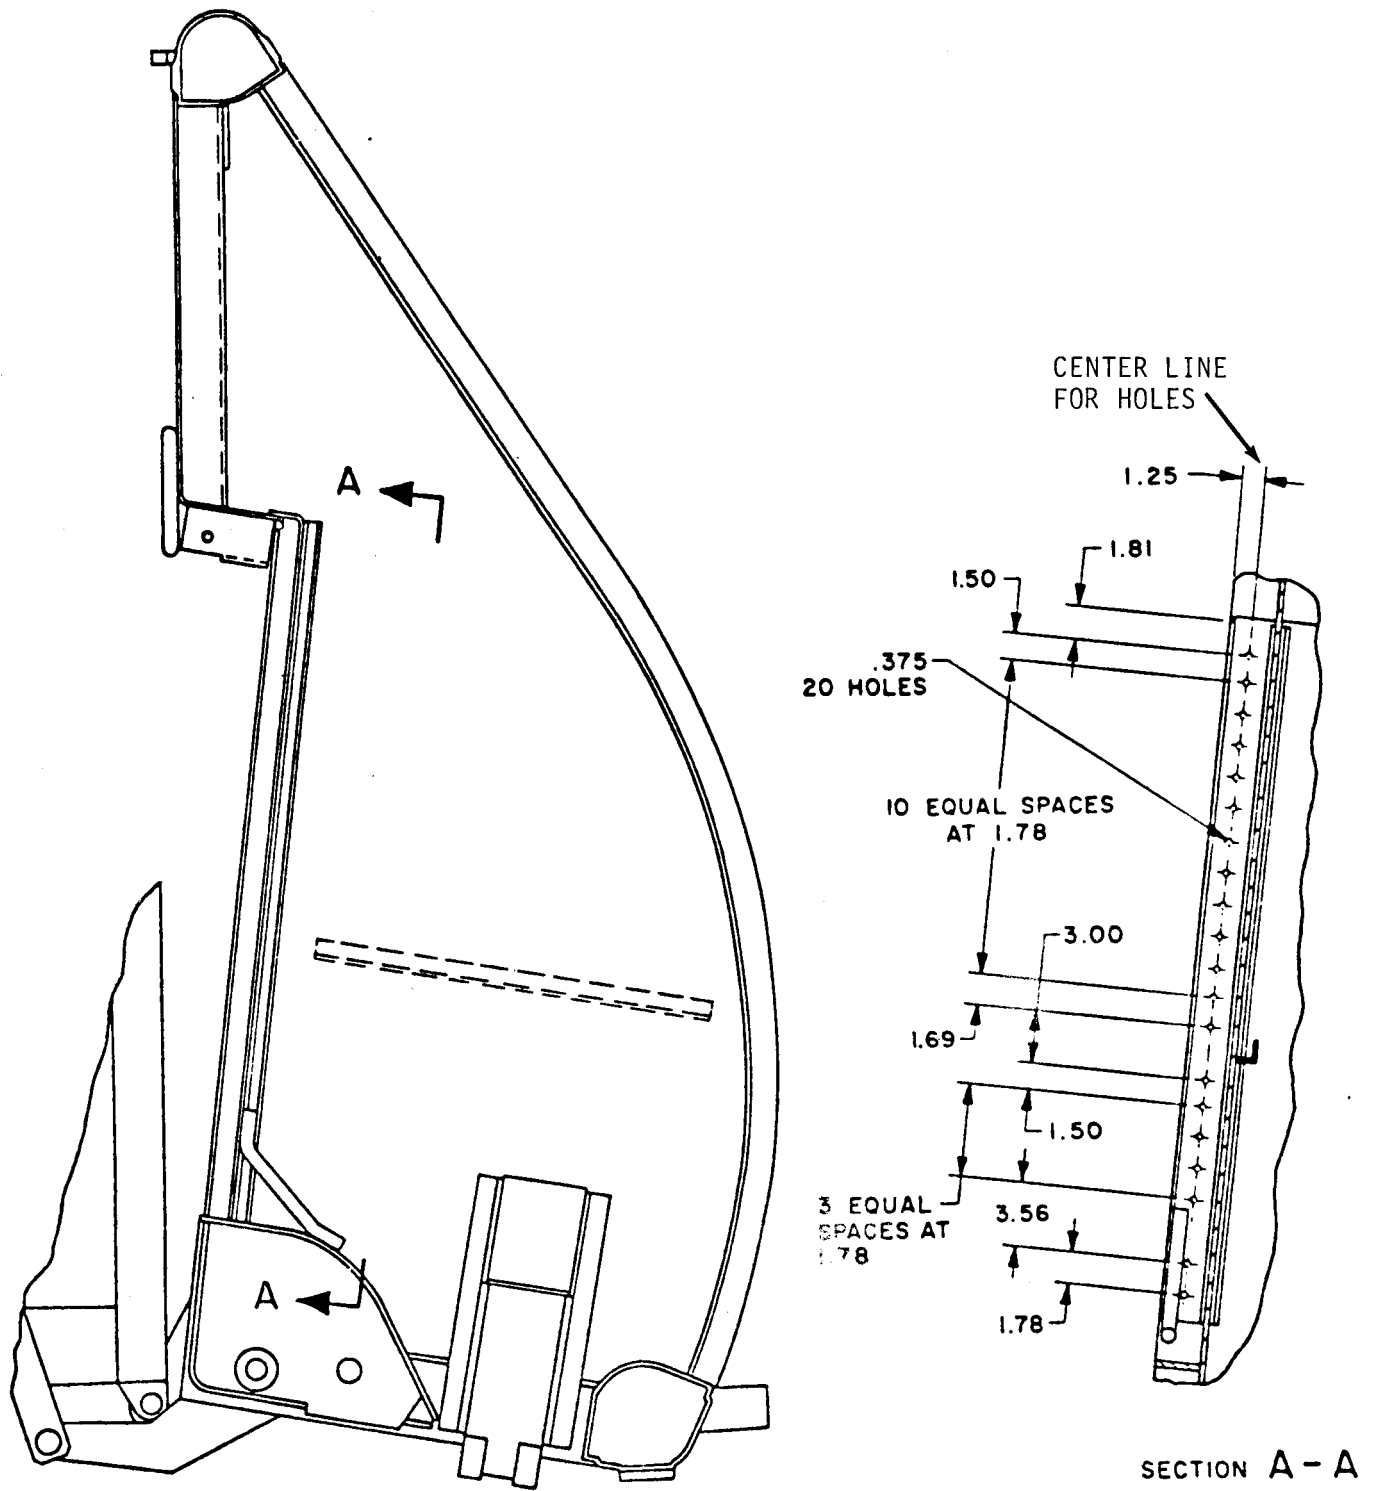

FIGURE 1 DRAIN HOLE LOCATION
- a. Using a scale or tape measure, mark out two points on underside of decking overhang on end of ponton bay to dimension shown on figure 1.
- c. Measure off centers to dimensions shown in figure 1 and center punch each center.